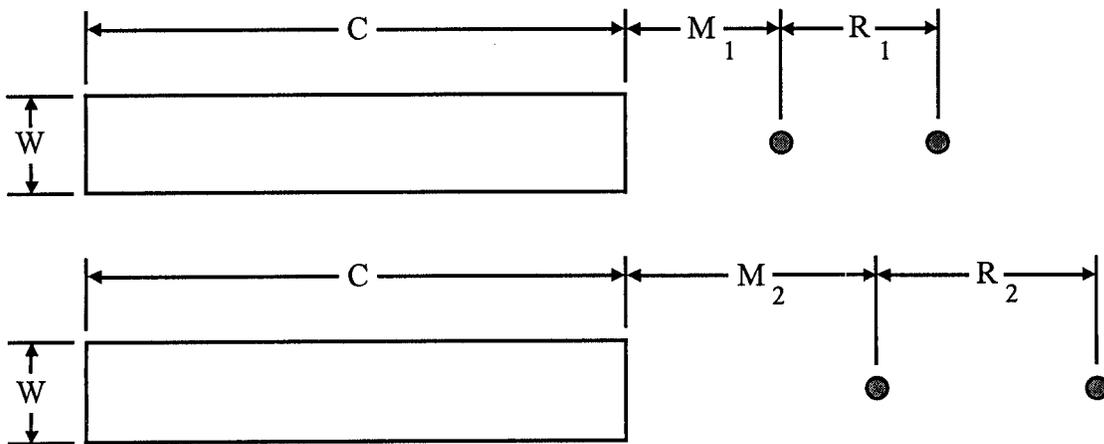

Figure 2-5. Two range designs having the same cross-track factor at the far end but different cross-track factors at the near end.
- b. When a small cross track factor is a problem, the range design can be modified to have an identical cross-track factor at the far end, but the cross-track factor at the near end will not be as small. Figure 2-5 illustrates the situation where the cross-track factor at the far end is identical, but the cross-track factor at the near end varies with the two designs. By moving the range structures back from the near end of the channel and increasing M and R, the cross-track factor at the near end is increased while keeping the cross-track factor at the far end the same.
4. Range Design Selection. Usually the range shown on the bottom of Figure 2-5 will give better service because the cross-track factor does not vary as much between the near and far ends, and the illuminance produced by each light on the eye of the user will be more nearly equal along the entire length of the channel. On the other hand this design might require larger dayboards, taller towers, or lights of increased intensity. It is up to the range designer to select the design that is most appropriate for the given situation.